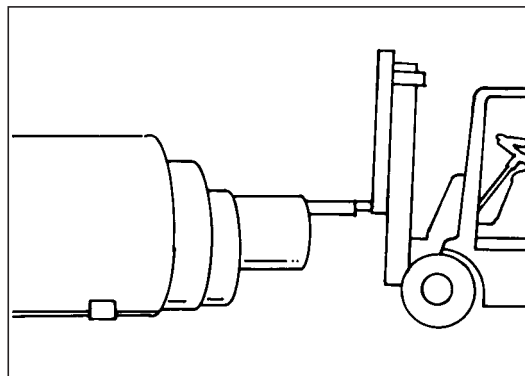

Figure 2.7
4. Package removal and denesting of the inside pipe(s) is best accomplished at a denesting station. Typically, this consists of three or four fixed cradles to fit the outside diameter of the largest pipe of the bundle. Inside pipes, starting with the smallest size, may always be removed by lifting slightly with an inserted padded boom to suspend the section and carefully move it out of the bundle without touching the other pipes (*Figure 2.7*).